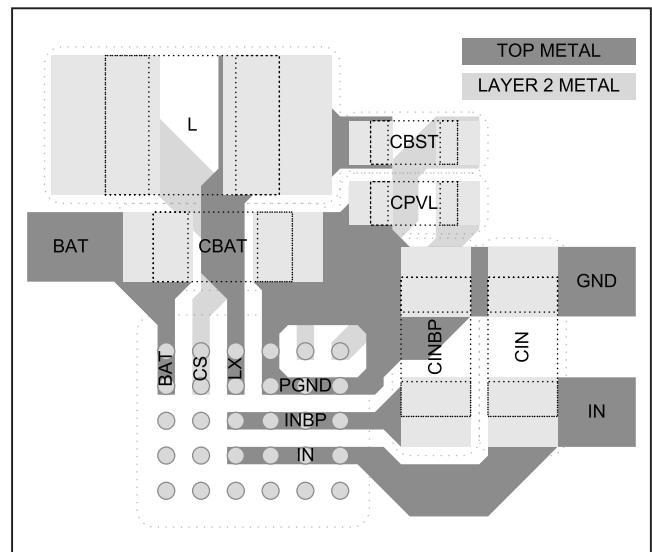
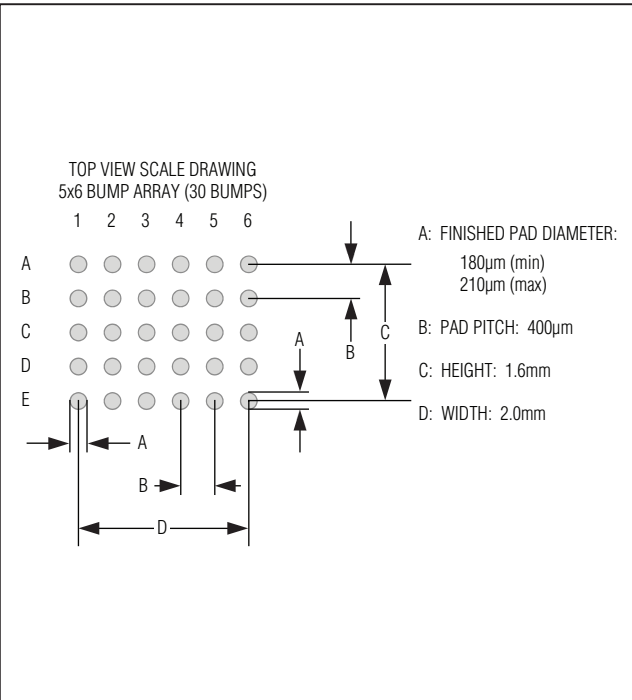
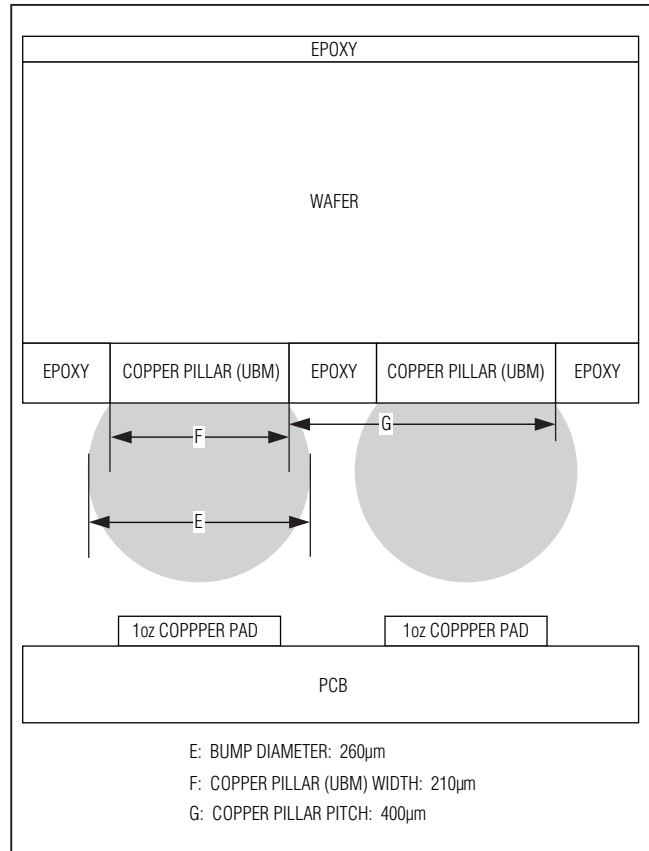

Figure 14. Power PCB Layout Example
Figure 15. Recommended Land Pattern
Figure 16. Bump Cross Section and Copper Pillar Detail
Figure 15 shows the recommended land pattern for the MAX8900\_. Figure 16 shows the cross section of the MAX8900\_'s bump with detail of the under-bump metal (UBM). The diameter of each pad in the land pattern is close to the diameter of the UBM. This land pattern to UBM relationship is important to get the proper reflow of each solder bump.
Careful printed circuit layout is important for minimizing ground bounce and noise. Figure 14 is an example layout of the critical power components for the MAX8900\_. The arrangement of the components that are not shown in Figure 14 is less critical. Refer to the MAX8900 Evaluation Kit for a complete PCB layout example. Use the following list of guidelines in addition to Application Note 1891: *Wafer-Level Packaging (WLP) and Its Applications* ([www.maxim-ic.com/ucsp](http://www.maxim-ic.com/ucsp)) to layout the MAX8900\_ PCB.
- 5) In Figure 14, the CS node is connected to the second layer of metal with vias. Use low-impedance vias that are capable of handling 1.5A of current. Also, keep the routing inductor current path on layer 2 just underneath the inductor current path on layer 1 to minimize impedance.
- 6) Both CBST and CPVL deliver current pulses for the MAX8900's MOSFET drivers. These components should be placed as shown in Figure 14 to minimize parasitic impedance.
In Figure 14, many of the top layer bump pads are connected together in top metal. When connecting bumps together with top layer metal, the solder mask must define the pads from 180 $\mu$ m to 210 $\mu$ m as shown in Figure 15. When using solder mask defined pads, please double check the solder mask openings on the PCB Gerber files before ordering boards as some PCB layout tools have configuration settings that automatically oversize solder mask openings. Also, explain in the PCB fabrication notes that the solder mask is not to be modified. Occasionally, optimization tools are used at the PCB fabrication house that modify solder masks. Layouts that do not use solder mask defined pads are possible. When using these layouts, adhere to the recommendations A through G above.